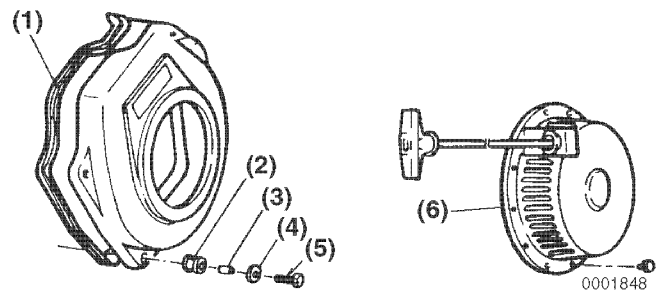

Figure 6-103
11. Attach the rubber seal (**Figure 6-103, (1)**) to the fan housing.
12. Install the fan housing rubber supports (**Figure 6-103, (2)**) and sleeves (**Figure 6-103, (3)**).
13. Install the cooling fan housing and secure with washers (**Figure 6-103, (4)**) and bolts (**Figure 6-103, (5)**). Install the recoil starter (**Figure 6-103, (6)**) if it has been removed.